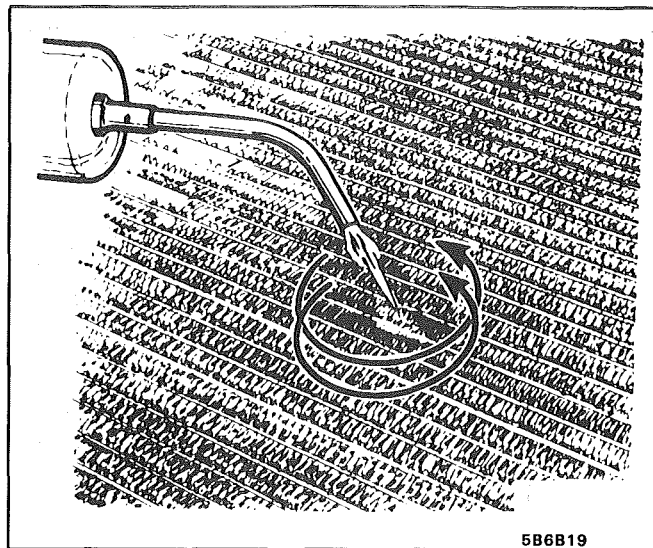

Fig. 20 Heating the Repair Area
7. Heat the repair area with the heat gun or by moving the torch in a circular pattern (Fig. 20). Use a soft, small blue flame (like a gas stove flame).